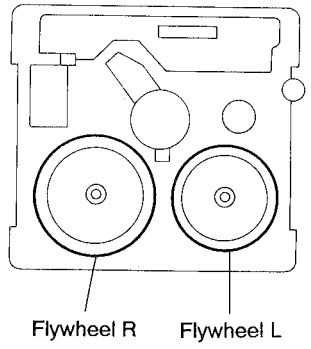

Fig.5-32
■ Removing the Flywheel (See Figs. 5-32,5-33)
3. After turning over the cassette mechanism, remove the slit washers ① and ② fixing the capstan shafts R and L, and pull out the flywheels R and L respectively from behind the cassette mechanism.